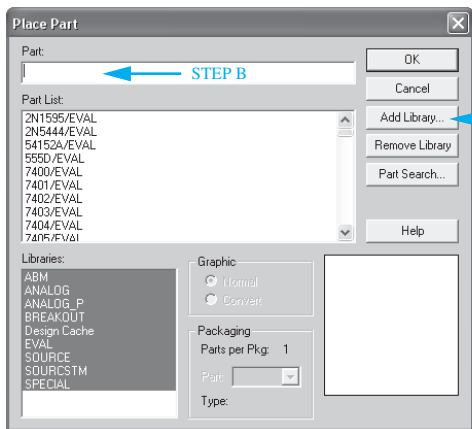
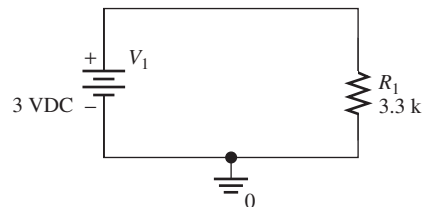

FIGURE 2.63 Place Part and Add Library.
FIGURE 2.64 PSpice schematic circuit for Example 2.12.
1. Select “Place” > “Part” or click on the icon . A window (as shown in Figure 2.63) will pop up.
2. The electronic parts are stored in a specific library file. Therefore, the library files are required to load into the Parts Database and search and place the particular electronic parts on the PSpice circuit board. To place the parts, choose Add Library (STEP A in Figure 2.63) and highlight all of the files or “Ctrl+A” to add all of the *.olb/*.lib files into the library.
3. Continuing with Example 2.12, to add a DC voltage source, type “Vdc” in the Part column (STEP B in Figure 2.63) and then click OK. Place the “Vdc” icon as shown in Figure 2.64, and then right click and choose “End Mode.” *Press “r” to change the orientation or direction of the voltage source.*
5. To place a resistor on the circuit board, go to “Place” > “Part” and type “R” in the Part column, then click OK. (Note: be sure to use R/analog and not R/discrete.) Place the resistor, “R1” as shown in Figure 2.64. *Press “r” to change the orientation of the resistor.*
12. A window that is similar to Place Part (Figure 2.63) will pop up. Choose add library, and choose source.olb/source.lib to add the ground into the library. Next, choose “0/Source” and place it as shown in Figure 2.64. Note: Always either press “Esc” or right click and choose “End” to complete the insertion.
13. You should be cautious not to choose and place any parts in the list of Figure 2.63 that have the suffix “Design Cache,” that is, called “*partname*/Design Cache” in the PSpice circuit board. PSpice is unable to run any simulation analysis with those components.